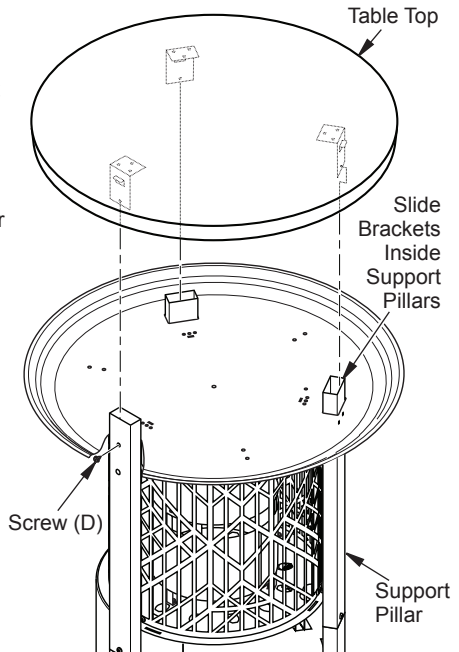

Figure 10 - Table Top Installation
17. Turn table top right side up. Slide brackets into top support pillars. Attach with 1 screw (D) each through support pillar and into bracket (see Figure 10).